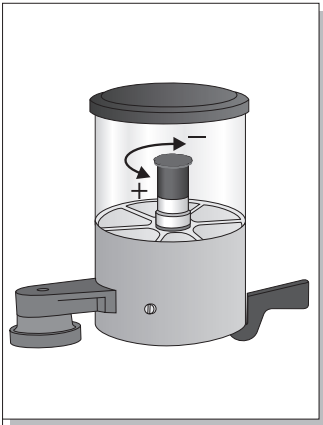

Fig.5
- 6-6 **Regulating measures (Fig. 5):** turn the pin inside the coffee dispenser in a clockwise direction (to decrease measure) or in an anti-clockwise direction (to increase measure).